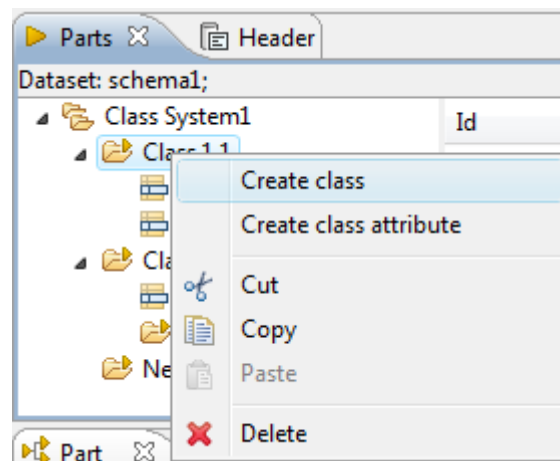

Figure 3. Context sensitive menu to create sub classification
- Right click on a classification name, where a sub-classification should be created. The context sensitive menu appears (see Figure 3).